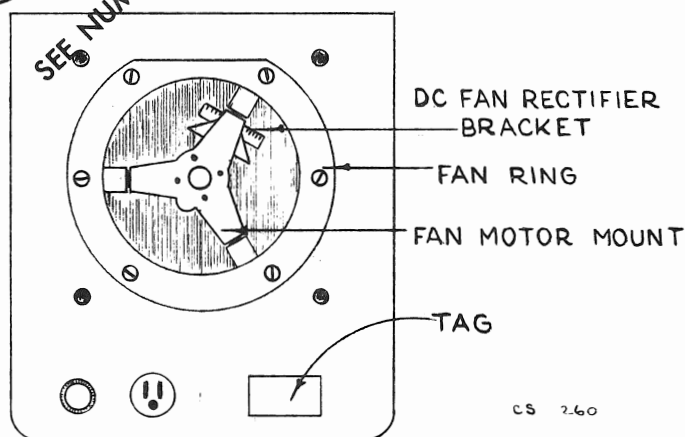

FIG. 1
- () 4. Remove the six (6) screws holding the fan ring (see Fig. 1) and pull the fan ring and AC motor assembly from the instrument.
- () 6. Temporarily mount the DC fan assembly, as shown in Fig. 1.
- () 15. Replace the voltage rating tag on the rear panel (Fig. 1) with the new tag (from kit). Select the tag which corresponds to the line voltage used. (See NOTE on page 5).